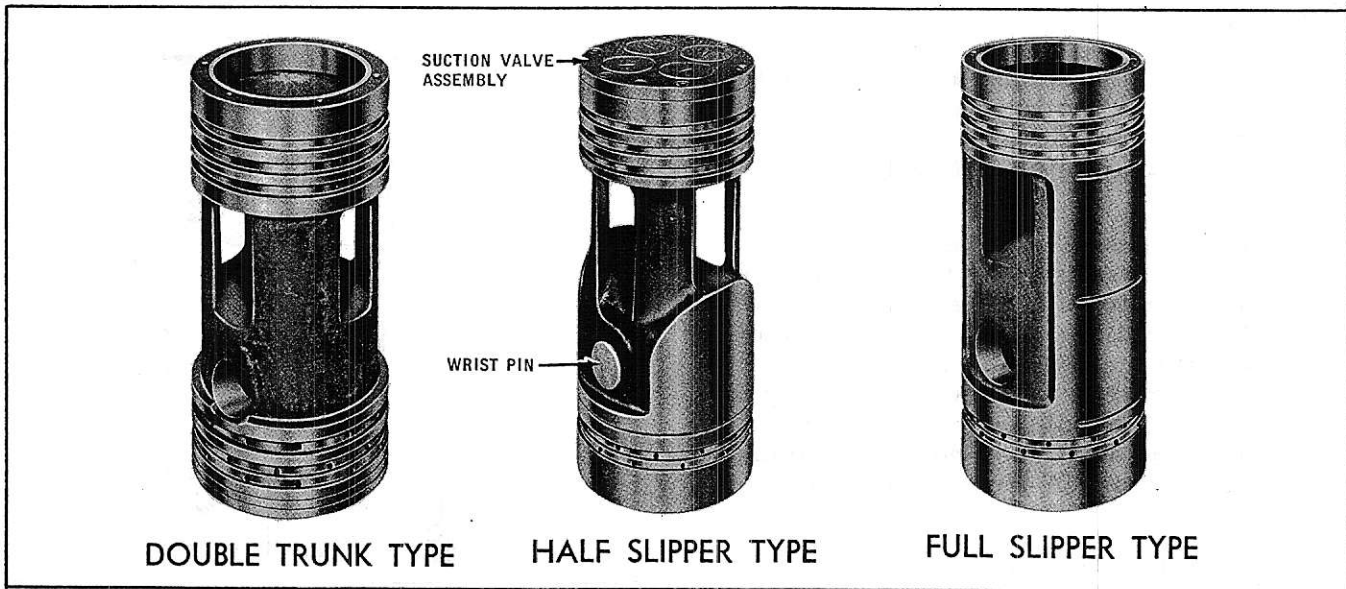

Fig. 20 - Ammonia Pistons
PISTONS (Fig. 20)
Pistons for these compressors are either the double trunk type, half slipper type or full slipper type. (See Fig. 20) The half slipper type is standard on compressors 6" to 9" stroke and the full slipper type is standard on 10" compressors. The double trunk type of piston has bands or bearing surfaces at each end only, and must be used for compressors where double suction is provided. The slipper type piston has additional bearing surface (thrust side) against the cylinder walls and cannot be used when a compressor is arranged for double suction connections.
- (c) Pistons of the double trunk type (See Fig. 20) must be used.